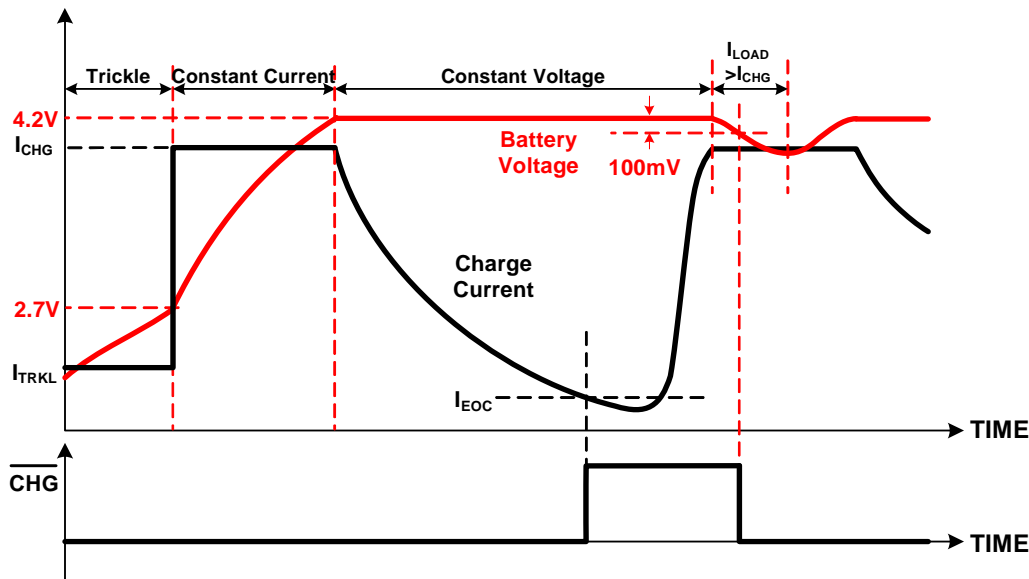

Figure 27. Charge Profile
The 34675 uses the standard charge profile with trickle, constant-current (CC), and constant-voltage (CV) charge modes, as shown in Figure 27. Both the CC and the CV charge modes are also called fast-charge mode. When the input voltage rises above an internal power-on-reset threshold, the $\overline{\text{PPR}}$ pin outputs a low voltage to indicate the power-supply presence. The charger starts with the trickle-charge mode until the battery voltage is above 2.7V. The CHG pin outputs logic low voltage at the beginning of the trickle-charge mode. If the battery voltage is unable to rise due to a battery failure, charging will remain in the trickle-charge mode. When the battery voltage reaches the 2.7V threshold, the 34675 softly changes to the CC mode. The soft transition minimizes the input-voltage drop and reduces the requirement of the input decoupling capacitance. When the battery voltage reaches 4.2V, the 34675 enters the CV mode and regulates the output voltage at 4.2V. The charge current decreases gradually in the CV mode. When the current drops to the EOC current threshold, the 34675 outputs logic high level at the CHG pin to indicate that the charging is completed.